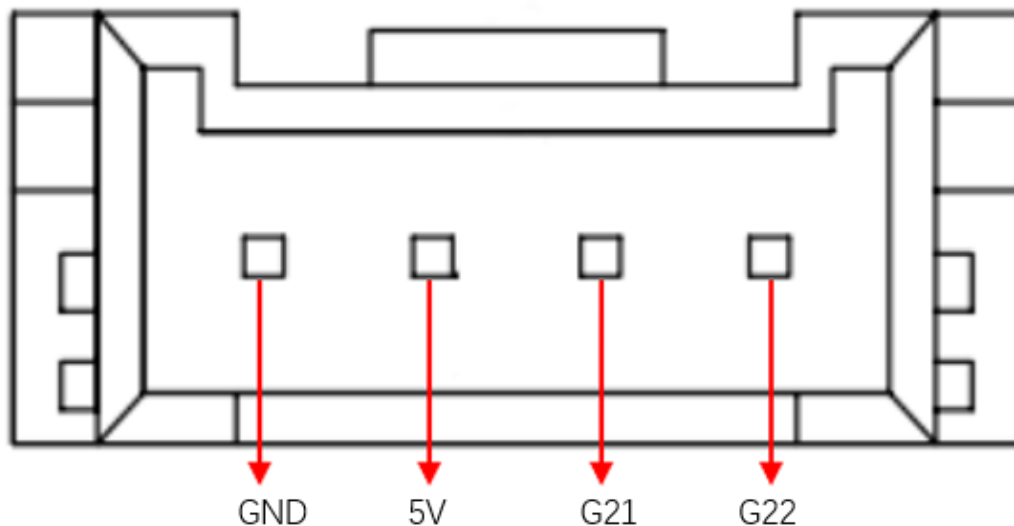

Figure 2-2 Grove interface 4
C. Grove interface 4: Figure 2-2 shows the definition of Grove interface 4